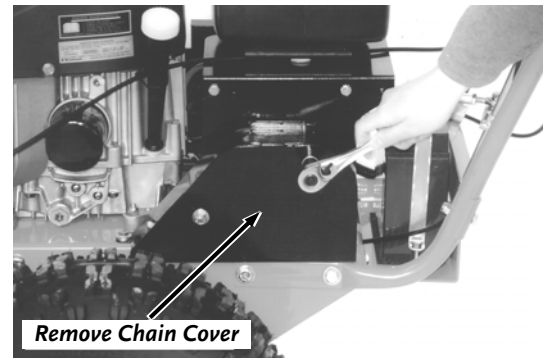

Figure 12
2. You should lubricate the Drive Chain with SAE 30 oil every 25 operating hours—more often if you operate the machine in extremely dusty or wet conditions. Remove the Chain Cover, lubricate the Chain, and replace the Cover (**Figures 12 & 13**).